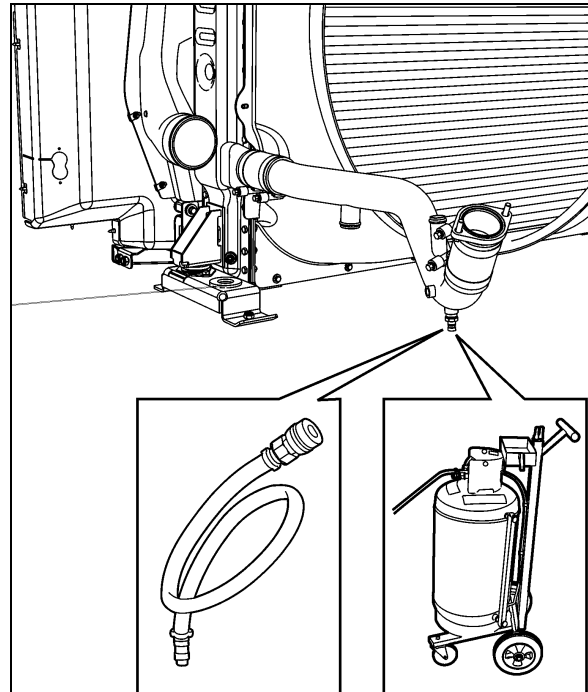

FIGURE 16: EXTRACTING COOLANT 05093
5. Connect coolant extractor (Figure 16). Use coolant extractor to drain the coolant from the engine. An alternate method is to drain the coolant into a suitable container using the drain hose.
4. Connect coolant extractor (Figure 16). Use coolant extractor to drain the coolant from the engine. An alternate method is to drain the coolant into a suitable container using the drain hose.